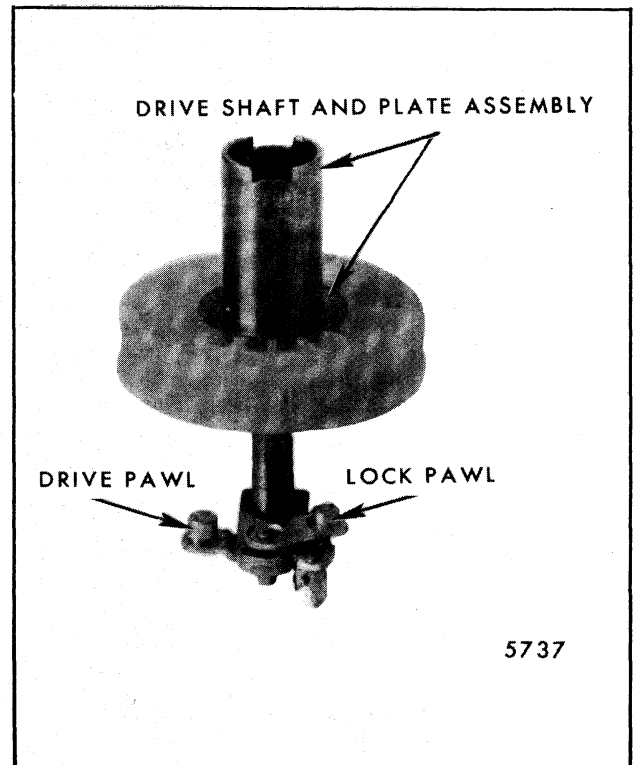

Fig. 2-92-Gear Removed
1. Position drive and lock pawls on drive plate as shown in Figure 2-92.
2. Slide gear and tube over the drive plate shaft. Move drive and lock pawls as required to allow their respective pins to fit in the gear guide channel (Fig. 2-92).